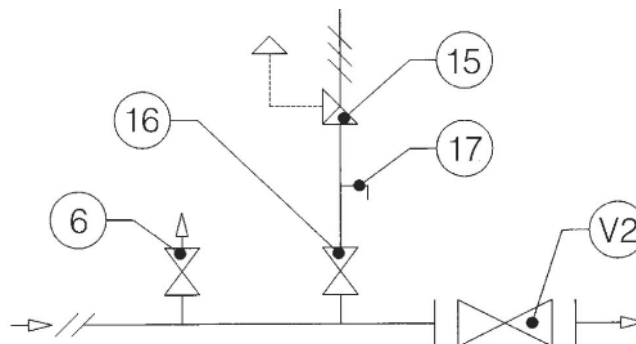

fig. 14
4.1.2 INSTALLATION AVEC ROBINET D'ARRÊT (fig. 14)